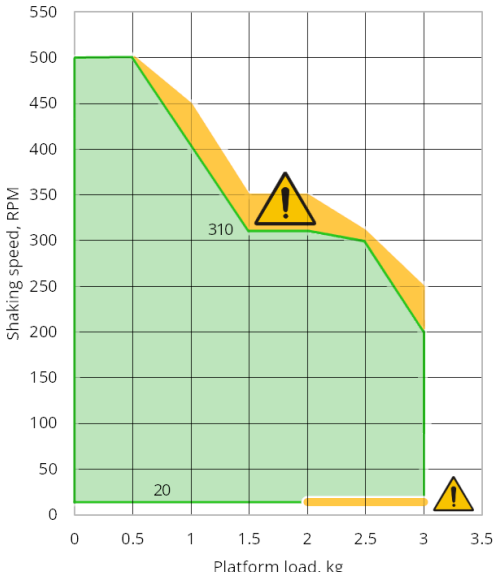

Figure 13. PSU-10i
8.5. **Load on a platform.** The charts on figures 13 and 14 below define the envelope of permissible combinations of platform load and rotation speed. Adjust your load and speed to fit in the envelope!
Caution! For PSU-10i on figure 13, the operation within the -marked area is not recommended. At minimum speed and high load, the shaking is uneven; at high speed and load – samples are not secured on the platform.